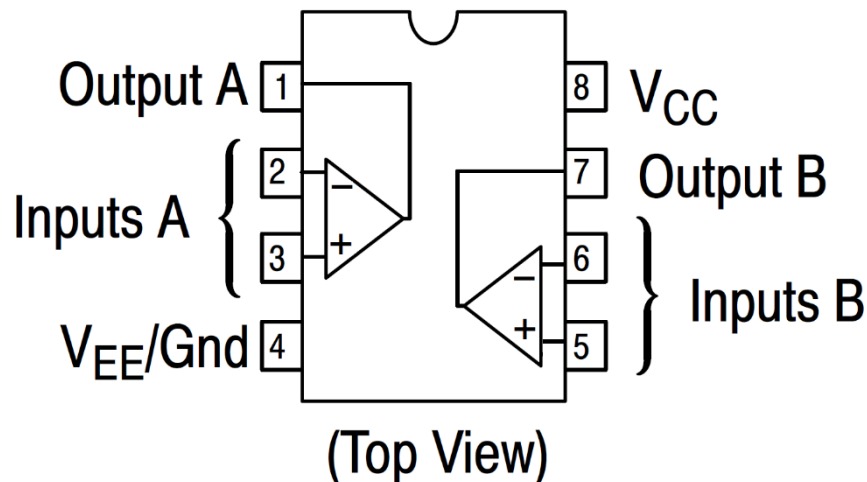

Figure 5. LM358 Pin-Out
- The LM358's pin-out is shown in Figure 5. In this activity, we will be using four op-amps. Recall that the LM358 has two op-amps per chip. Hence, we can use just two LM358 chips to design our overall circuit.